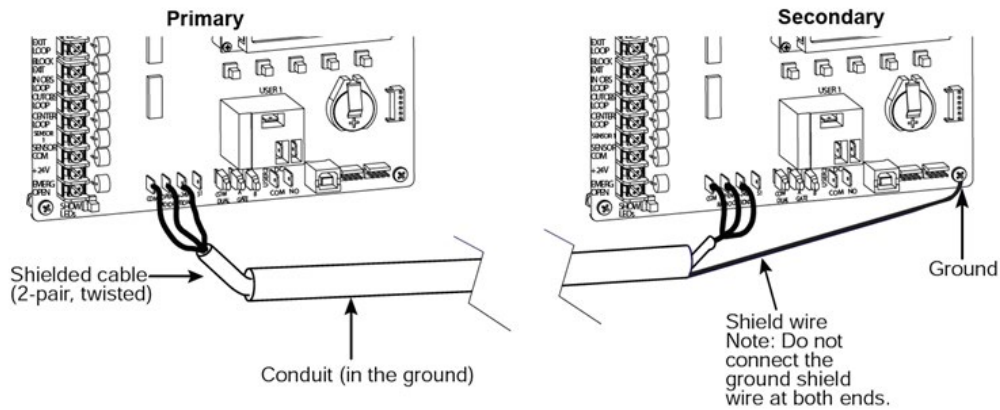

Figure 35. Primary and Secondary Wiring Connections
- An electrical conduit for interconnecting wires must span between the two operators. The primary-secondary communication wires and any low voltage control wires must be installed in a conduit that is separate from the high voltage power wires. See “Figure 35. Primary and Secondary Wiring Connections” on page 135.
1. As shown in Figure 35, connect a shielded communications cable to the DUAL GATE inputs in each unit. The inputs are located near the base of the SmartDC Controller. Be sure to connect the wires in pairs to the same terminal ports (A-A, B-B, and COM to COM) on both units. See Table 11.
2. Attach a ring terminal to the shield wire and connect it to the SmartDC Controller’s convenient ground screw. Refer to Figure 35.